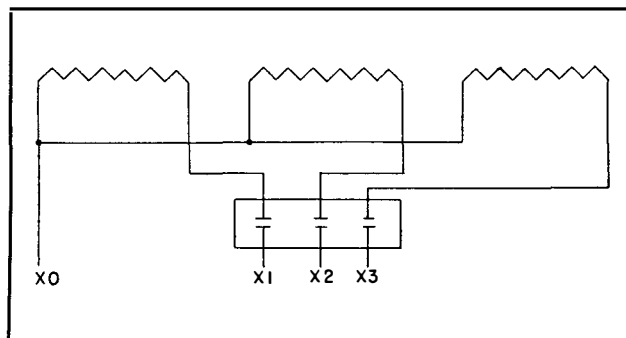

FIG. 7. Three-Phase "CSP" Transformer With Wye-Connected Low-Voltage Windings.
**Three-Phase "CSP" or "CP" Transformers.** When the low-voltage windings are Wye-connected, the breaker is installed as shown in Fig. 7. In the larger ratings, as shown on the nameplate, only half the current in each phase passes through the bimetal. In these ratings, the test current should be twice the value shown in Table 1, and loose connections may cause premature tripping, as described above. If the neutral is brought out to a bushing, test connections should be made from X0 to X1, X2 and X3, in turn, to check the corresponding breaker poles. When the neutral is not accessible, X2 and X3 should be connected together and to one test lead, the other test lead being connected to X1. Then the test current will divide between the poles in series with X2 and X3, while the pole in series with X1 will carry the entire current and will be the one which will trip the breaker. Similar connections may then be used to test the other two poles.